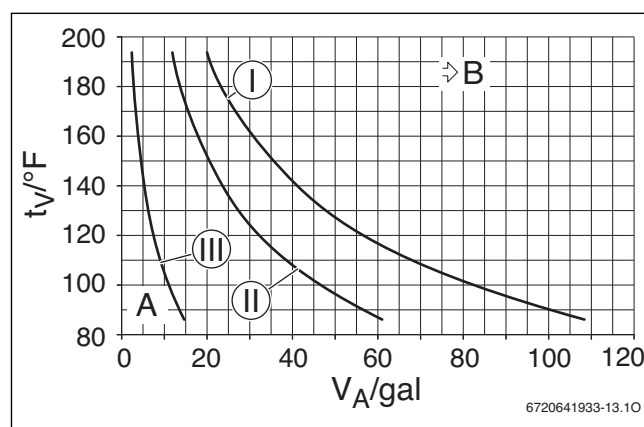
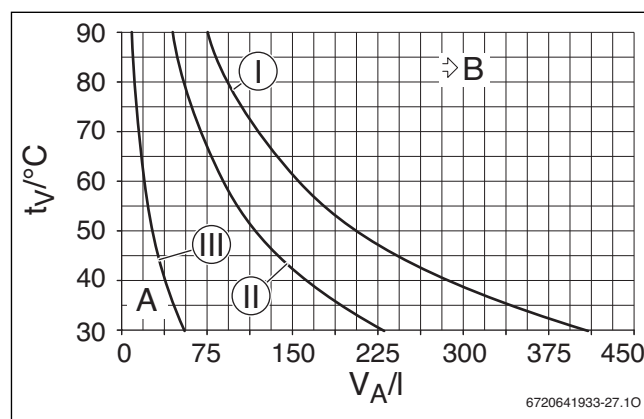

Fig. 13 Operating capacity of the expansion vessel in °F and gallons
Fig. 14 Operating capacity of the expansion vessel in °C and liters
**Key to Fig. 13 and Fig. 14:**